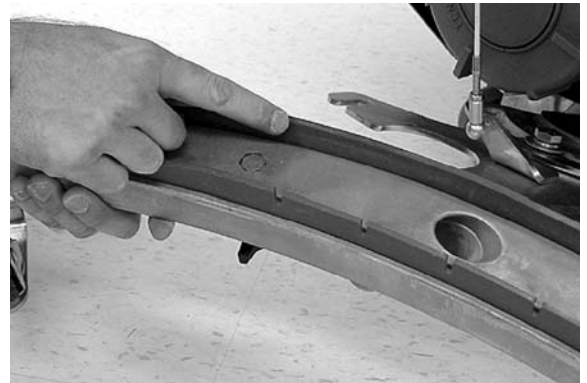

FIG. 42
7. Check the condition of the squeegee blade wiping edge (Figure 42). Rotate blade if worn. (See SQUEEGEE BLADE REPLACEMENT)